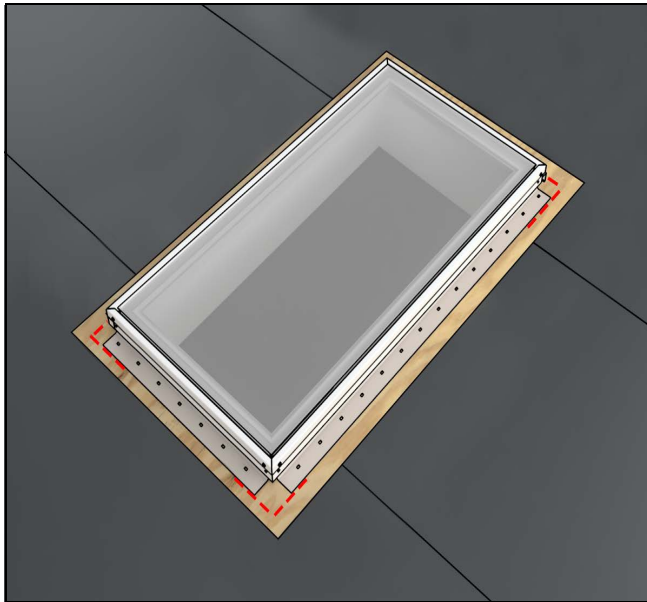

Figure 9
7. Center unit over rough opening as shown in Figure 9. To position unit do not slide unit, lift or use suction cups for positioning. Sliding unit will cause damage to foam sealing gasket.